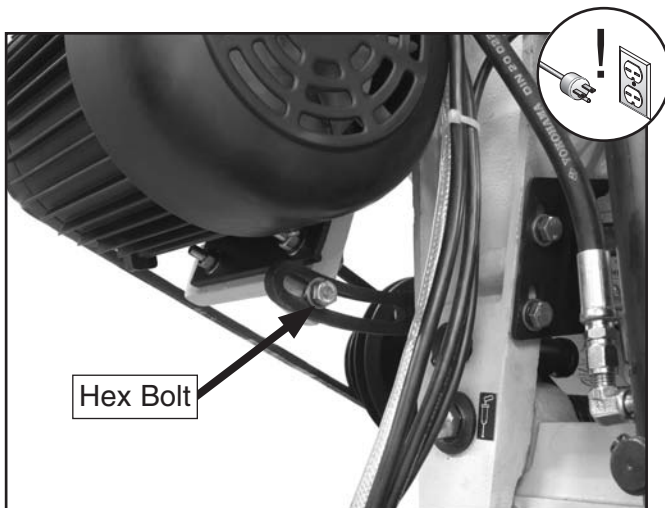

Figure 54. Belt tension bolt.
3. With one hand, support the weight of the motor. With the other hand, loosen the hex bolt shown in **Figure 54**. The motor will drop and the V-belt will slacken.